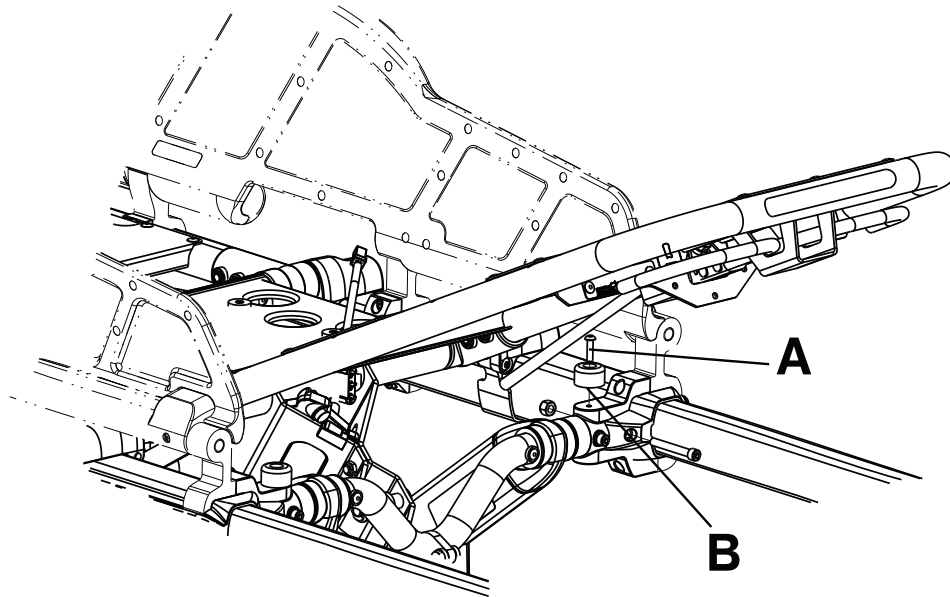

Figure 8 – Siderail assembly replacement (XPS)
3. Using a T25 Torx driver, remove the button head cap screw (A) and black bumper (B) on the side where you are replacing the siderail (Figure 8). Save the screw and bumper.